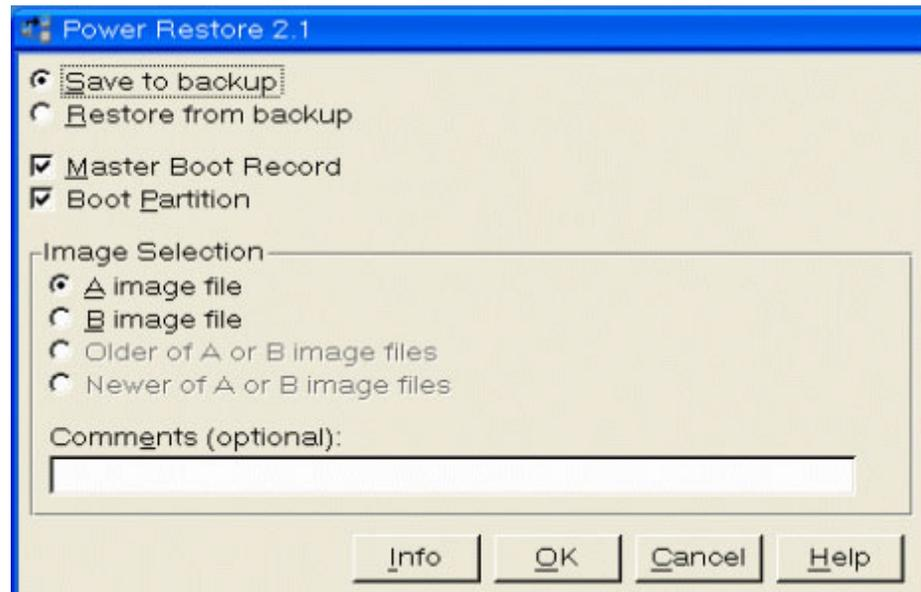

Figure 75. Power Restore GUI-based user interface
- GUI-based interface - Use this interface if the system has a video card capable of a 640 x 480 resolution, 256-color graphics mode. The interface looks like Figure 75: